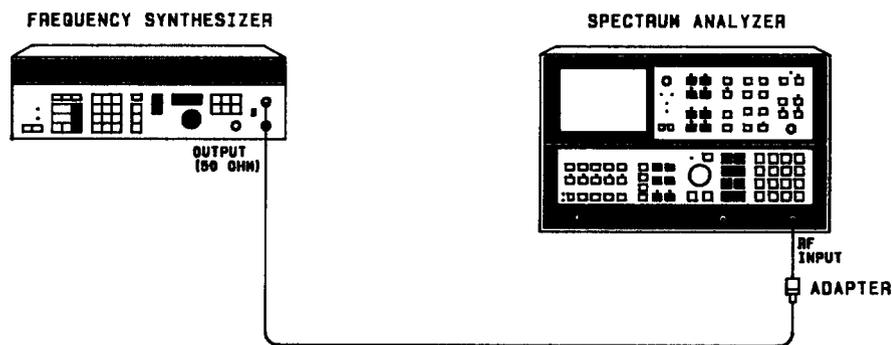

FIGURE 3. NARROW SPAN TEST SETUP
Equipment listed is for two test setups, Figures 3 and 4.
- Connect equipment as shown in Figure 3.